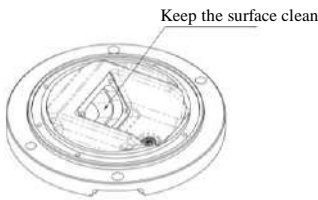

Figure 5-9
- Push the prism and its gasket sleeve to the working position on the upper cover. When pushing them, water clean water at the window and wipe the prism surface with the diethyl ether to keep it clean (see Figure 5-9);